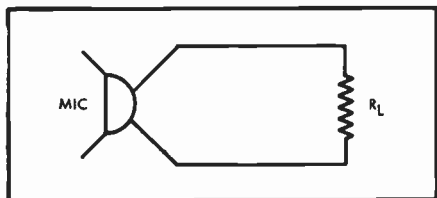

Fig. 1
A. *Figure 1 shows the normal wiring of such a device. R_L is shown in parallel with the device, and its value is so chosen that it will be equal to the impedance of*